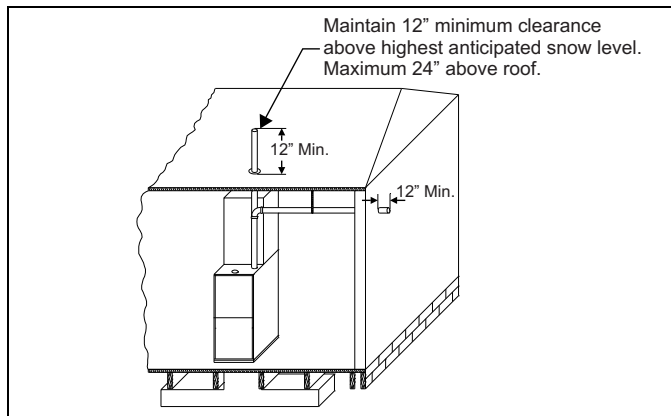
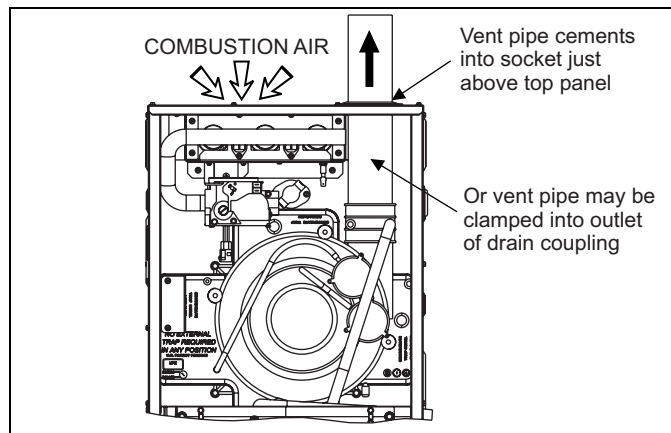

FIGURE 31: Termination Configuration - 1 Pipe
FIGURE 37: Combustion Airflow Path Through The Furnace Casing
The combustion air side of the single pipe configuration shown in Figure 31 is referred to in these instructions as ambient combustion air supply. Follow the instructions for ambient combustion air installations, paying particular attention to the section on air source from inside the building. The vent for a single pipe system must be installed as specified in the venting section of these instructions with the vent terminating as shown in Figure 31. Each furnace must have a separate vent pipe. Under NO circumstances can the two vent pipes be tied together.
2. **AMBIENT COMBUSTION AIR:** Combustion air is supplied from the area surrounding the furnace through openings in the furnace casing. The combustion air and the vent pipes are not terminated in the same atmospheric zone. Refer to Figure 31 for vent terminations. Refer to "Ambient Combustion Air Supply" for proper installation. Refer to Figure 37.